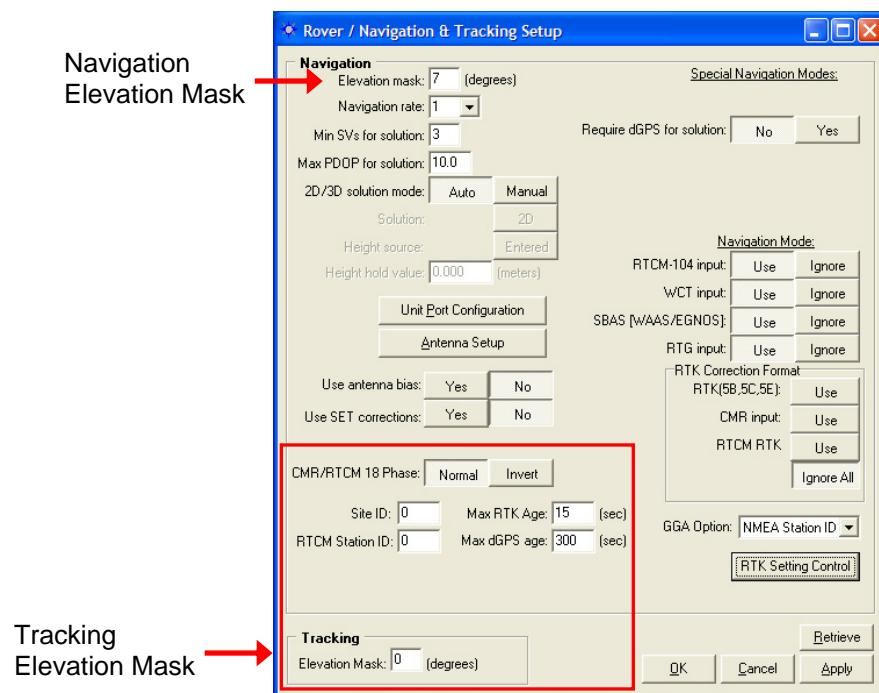

Figure 23: Rover / Navigation & Tracking Setup Window
- ✓ **Site ID:** Accept the default base Site ID (3) or enter an ID to isolate the base and rover radios, if desired. The rover radio must be set to the identical ID. This avoids cross talk between the rover radio and any other base radio in the area that may be set to the same frequency. For multiple base stations, use a different site ID for each one. The valid range for a Base site ID is 1 to 1023. The valid range for a Rover site ID is 0 to 1023. If the rover Site ID is 0 (the default), the rover accepts RTK corrections from any base station (see Figure 23).
Refer to Figure 23 for the options below: